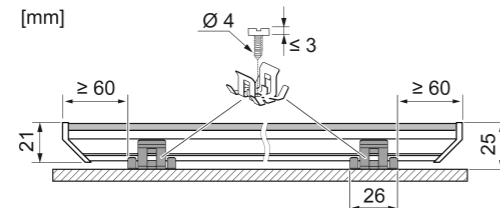
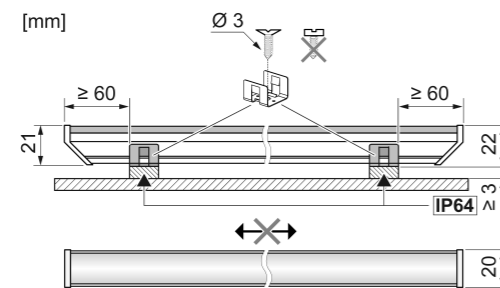

Figure 2: Mounting with bracket 81081710
Figure 3: Mounting with bracket 81081700
- i** To simplify mounting as much as possible, we recommend using the retaining bracket 81081710 (Figure 2). The retaining bracket 81081700 is available as an option for particularly small installation environments. However, this also requires the use of additional spacers (Figure 3).